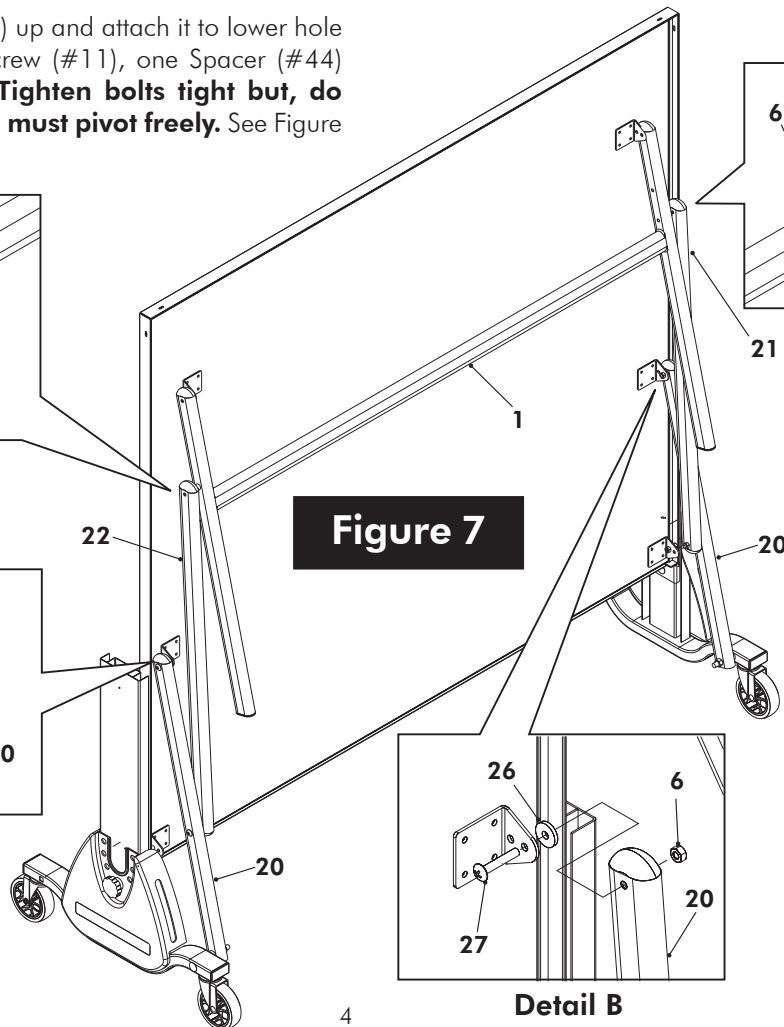

Figure 7
11. With one adult holding the "Top Assembly" upright, swing Struts (#20) up and attach them to mounting brackets on bottom of "Top Assembly" using one screw (#27), Spacer (#26) and lock nut (#6) for each Strut. **Tighten bolts tight but, do not over tighten. Joints must pivot freely.** See Figure 7, Detail A and B.
12. Swing Left Linkage (#22) up and attach it to Leg (#1) using one screw (#11), one Spacer (#44) and one lock nut (#6). **Tighten bolts tight but, do not over tighten. Joints must pivot freely.** See Figure 7, Detail C.
13. Swing Right Linkage (#21) up and attach it to lower hole in Leg (#1) using one screw (#11), one Spacer (#44) and one lock nut (#6). **Tighten bolts tight but, do not over tighten. Joints must pivot freely.** See Figure 7, Detail D.